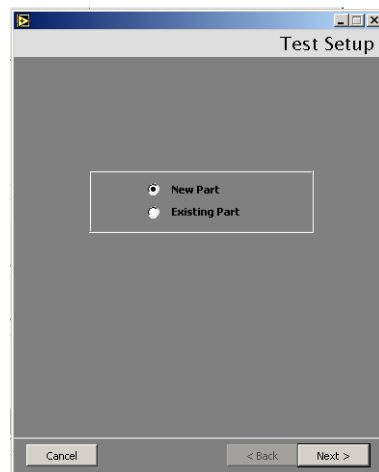

Figure 2-27 Test Setup
1. Click **Multi Part Tester** on the *Home* screen and Figure 2-27 appears.